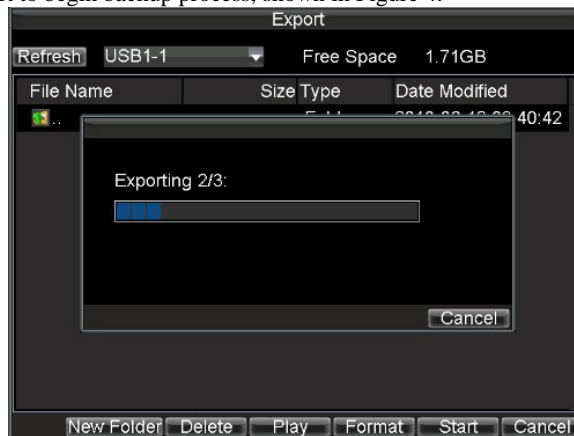

Figure4. Backup Progress
7. Click Start to begin backup process, shown in Figure 4.